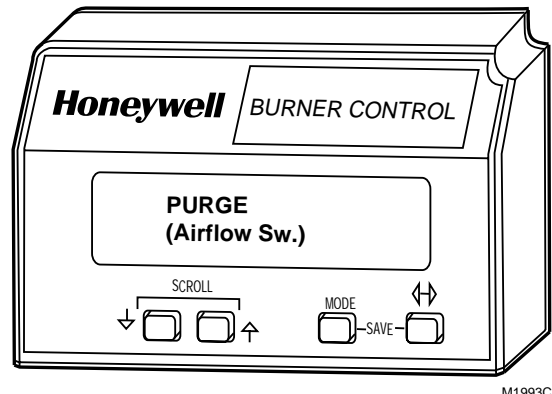

Fig. 15. Lockout message, State 3.
3. State 3 (Fig. 15). Display of the third state message lasts three seconds. It is a replica of the burner status as it existed at the time of the lockout. The second line is blank if the burner status at the time of lockout did not include a preemptive message (in parentheses) for the second line.